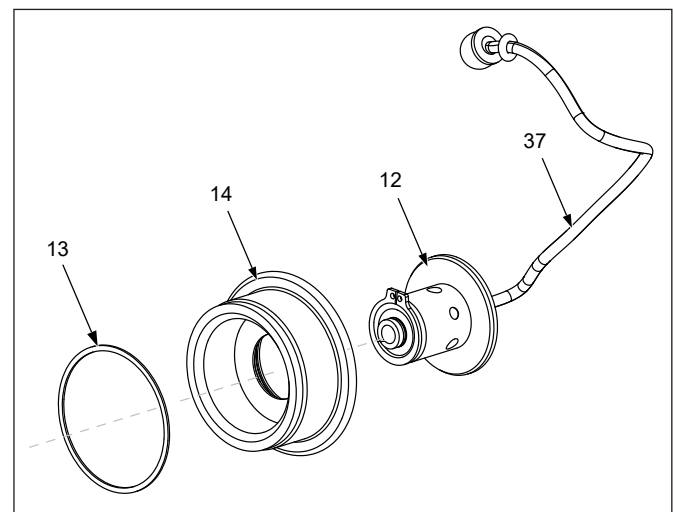

Figure 17: Exploded Square drive
7.2.5 Square drive Release Button Disassembly and Reassembly (Fig. 17)